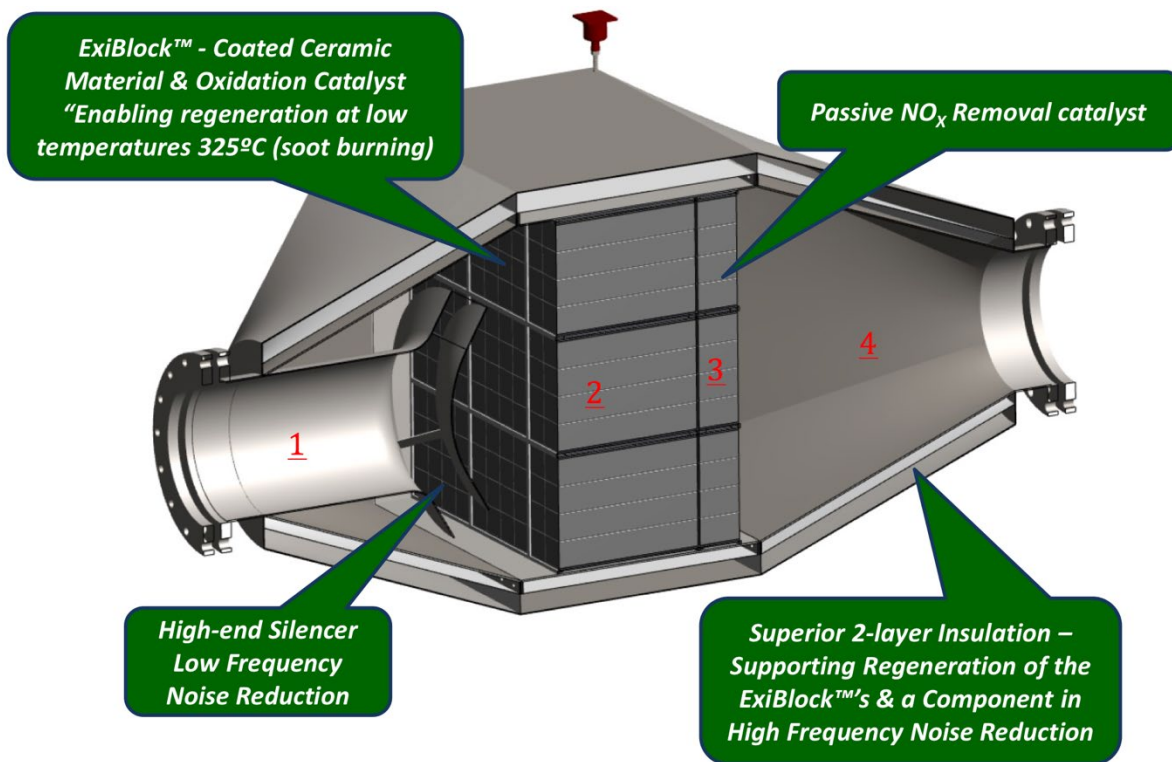

Figure 2 Overview of the filter system. Each section ends to the right of the number, except section 3 it ends at the end, and starts after compartment 2
4. The outlet ("4" in figure 2)